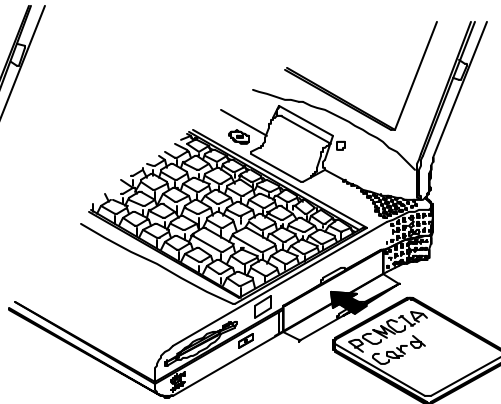

Figure 2-15
2. Align the PC card with the slot and push it in firmly until it locks into place (Figure 2-15).